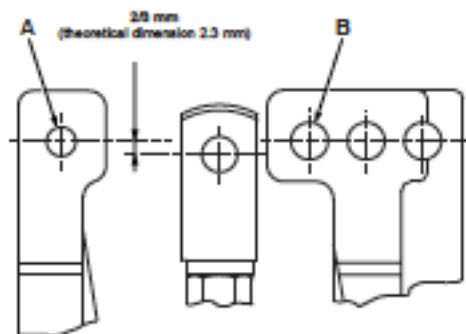

Figure 15 - Presetting the plug stem position
4.2.1 Adjusting the plug stem on the VariPak 28001 single-lever valve (Figures 15, 16 and 26)
A. Loosen nut (103) and turn the plug stem using a screwdriver while blocking clevis (104a) until the clevis is in the position shown in figure 15. Lock nut (103).
- 2.3 mm below the alignment of the pin holes in the actuator bracket (108) for the VariPak 28001 single-lever valve (see figure 15).